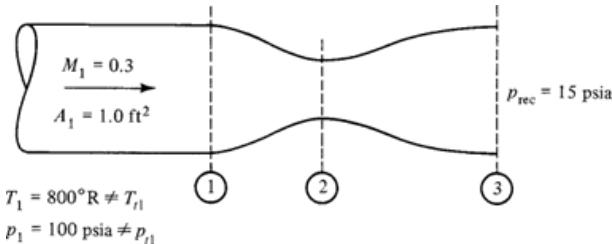

Figure P5.16
- 5.16** A converging-diverging nozzle (Figure P5.16) discharges air into a receiver where the static pressure is 15 psia. A 1 – ft² duct feeds the nozzle with air at 100 psia, 800 °R, and a velocity such that the Mach number $M_1 = 0.3$. The exit area is such that the pressure at the nozzle exit exactly matches the receiver pressure. Assume steady, one-dimensional flow, perfect gas, and so on. The nozzle is adiabatic and there are no losses.